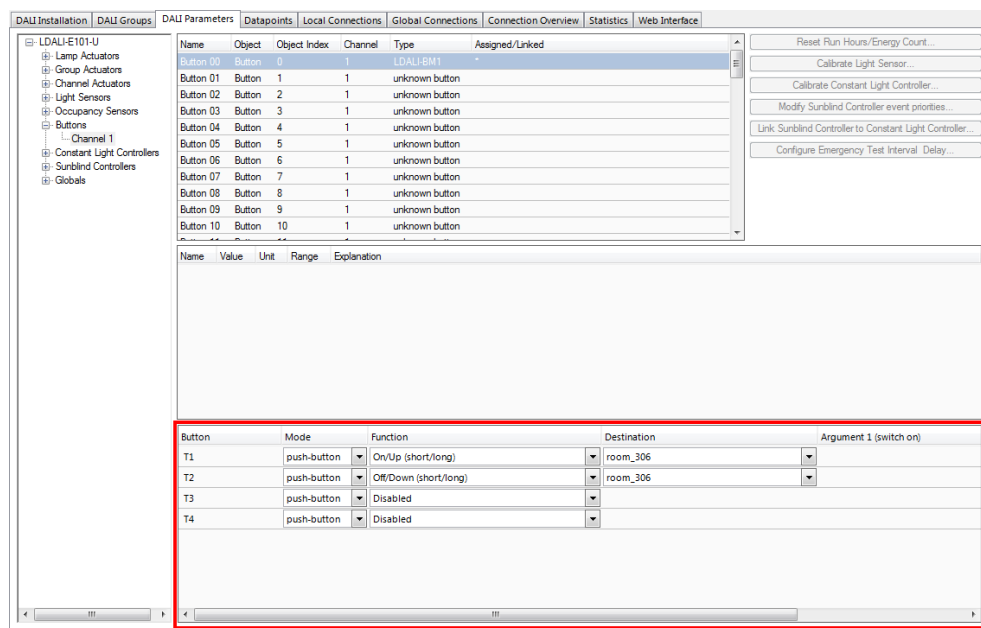

Figure 28: Parameterize DALI button functions.
- Determine which sensors (occupancy & lux) are used as inputs to the constant light controller instance and which groups are controlled in the lower part of the window (2).
- Stay on the **DALI Parameters** tab and select the button object to which you have assigned your DALI button as shown in Figure 28.